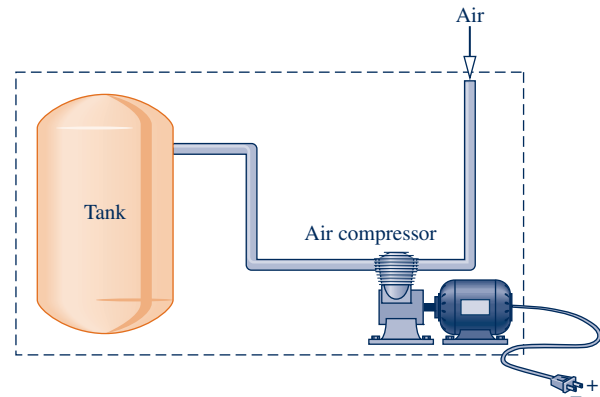

Fig. 1.5 Air compressor and storage tank.
► **FOR EXAMPLE** Figure 1.5 shows a sketch of an air compressor connected to a storage tank. The system boundary shown on the figure encloses the compressor, tank, and all of the piping. This boundary might be selected if the electrical power input is known, and the objective of the analysis is to determine how long the compressor must operate for the pressure in the tank to rise to a specified value. Since mass crosses the boundary, the system would be a control volume. A control volume enclosing only the compressor might be chosen if the condition of the air entering and exiting the compressor is known, and the objective is to determine the electric power input. ◀ ◀ ◀ ◀ ◀